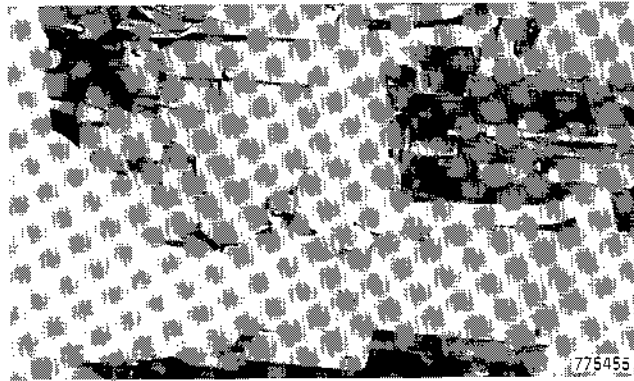

Figure 38
40. Loosen the lock nut on the clutch adjustment cap screw. Turn clutch adjustment cap screw in until clutch pedal comes all the way up, Figure 38.